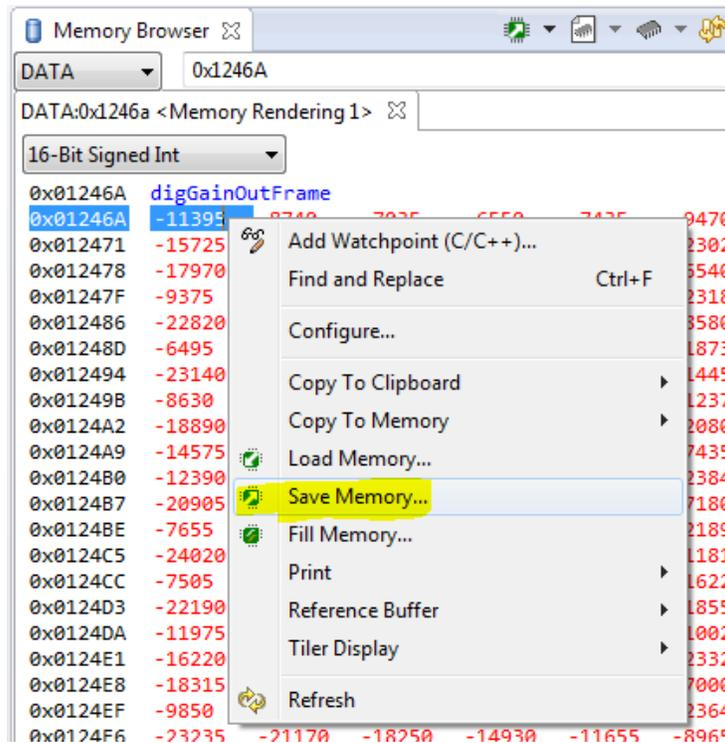

Figure 20. Saving the Captured Audio Samples to a .dat File
- Save the audio samples into a .dat file by right-clicking on the memory browser window as in Figure 20. Save the data at `lc55x-digital-mic-decimation\test_data\output\dig-mic-decimation_test_output.dat`, file type set as TI Data.